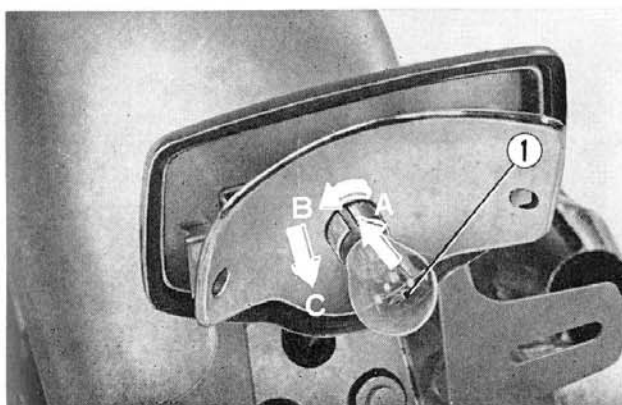

Fig. 16-8 ① Tail/stoplight bulb
2. Remove the taillight lens and then remove the tail/stoplight bulb. (Fig. 16-8)